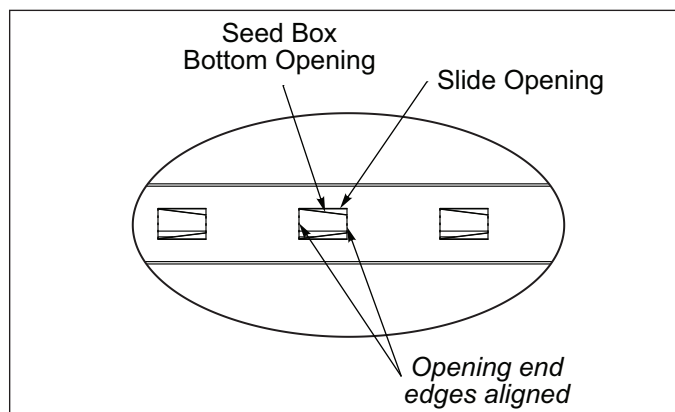

Figure 4-5: Shifter Handle Set at “6”
- When the Shifter Handle is set to “6” (open), the Seed Box bottom opening end edges are aligned with the Slide opening end edges. Seed Box bottom opening is completely visible. **See Figure 4-5.**